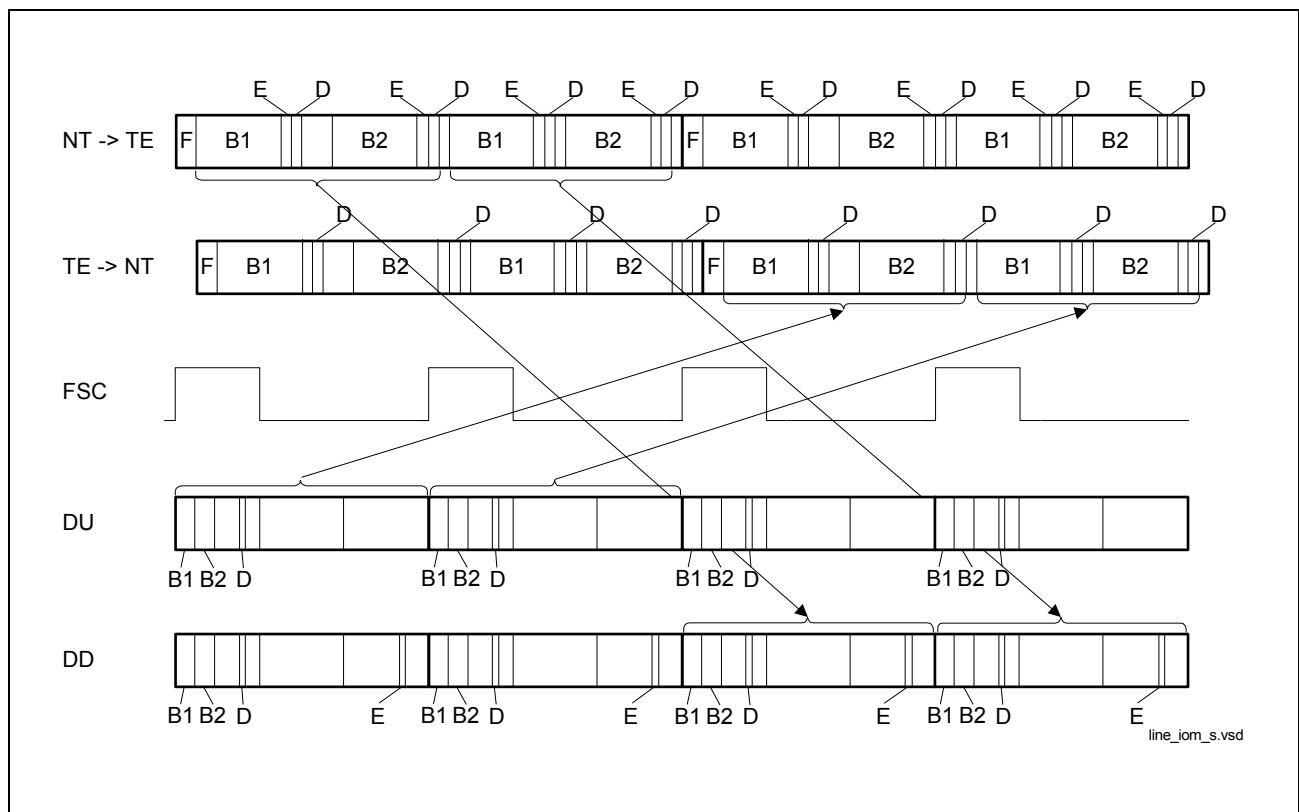

**Figure 22 Data Delay between IOM-2 and S/T Interface (TE mode only)**
**Figure 22** shows the data delay between the IOM-2 and the S/T interface and vice versa.